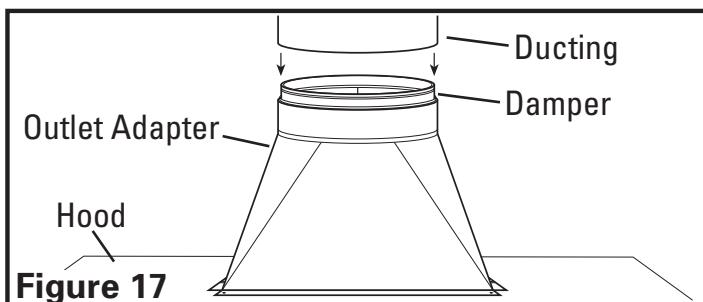

Figure 17
- Connect the ducting to the outlet adapter and damper. Secure in place using tape to seal all joints (**Figure 17**).